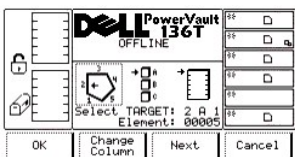

Figure 35. Command > Move > Position Picker Dialog
When Position Picker is selected, the Position Picker Dialog is displayed. See Figure 35. This option positions the picker in front of a specific element.
- 1 If the button beneath the **Next** softkey is selected, the current source parameter changes from slot to column as shown in the Position Picker Dialog. Refer to Figure 35.